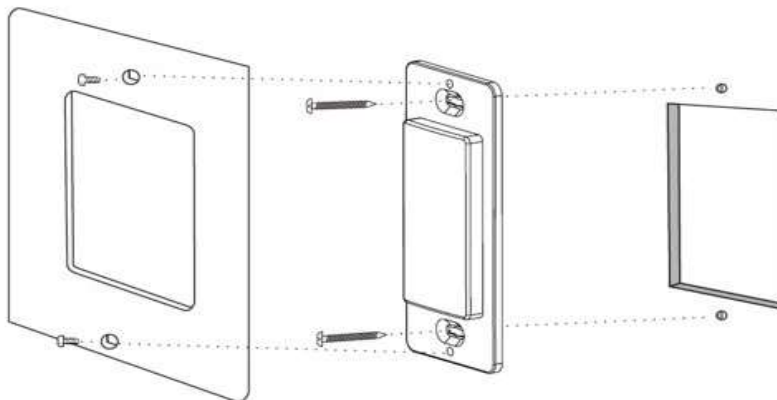

FIGURE 4: MOUNTING CONTROL
10. Mount control to the wall. Figure 4.